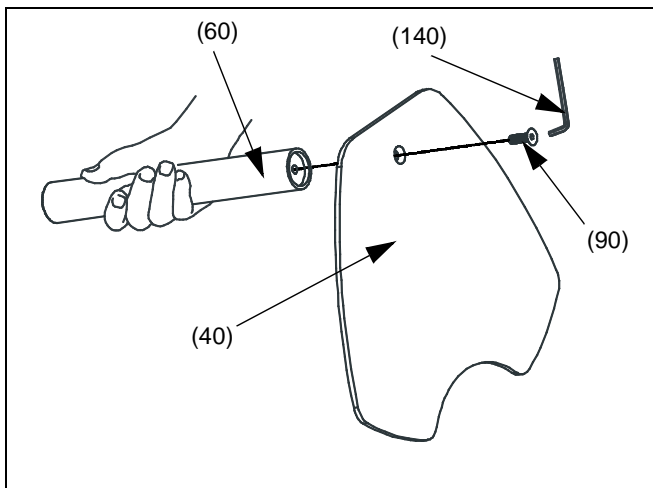
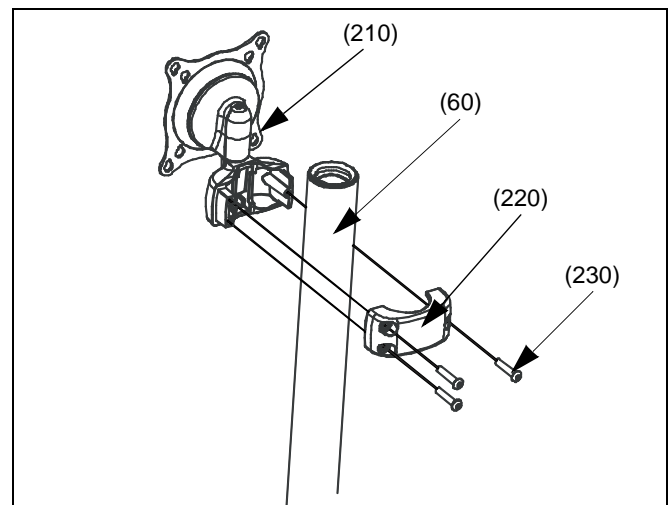

Figure 2: Assemble Pole to Base
Figure 3: Mount Centris Head with Pole Clamp
1. Assemble pole (60) to base (40) using one 3/8-16 x 1" FHCS (90). (see Figure 2)
2. Place front pole clamp, with Centris Head, (210) against pole in approximate mounting location.
3. Place three BHCS (230) into rear pole clamp (220) and place against pole aligning with front pole clamp (210). (see Figure 3)
4. Secure rear pole clamp (220) to front pole mount (210) and pole by tightening three BHCS (230) using 5/32" hex key (120). (see Figure 3)
1. Assemble pole (50) to base (40) using one 3/8-16 x 1" FHCS (90). (see Figure 2)